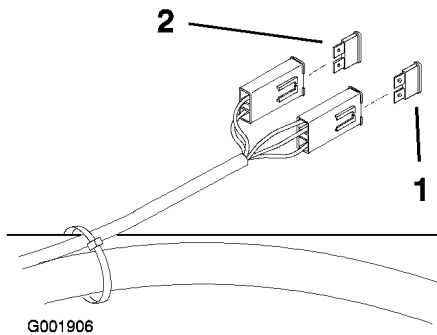

Figure 47
2. To replace a fuse, pull out on the fuse to remove it (Figure 47).